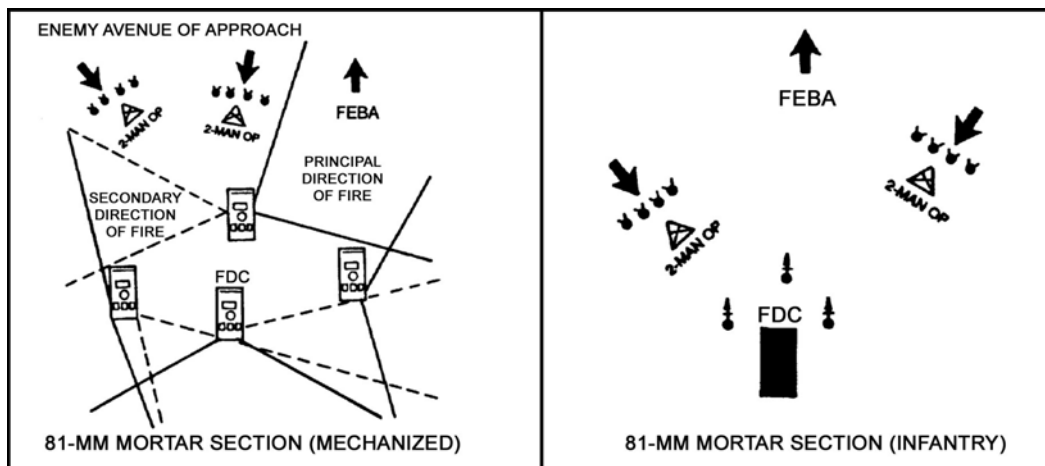

Figure 1. Section Area Avenue of Approach
- c. In mechanized units, the caliber .50 machine gun is a good defensive, antiaircraft weapon. Due to the number of Soldiers in the section, the machine gun should not be dismounted. Each machine gun should be given a principal and an alternate sector of fire. Then range cards must be prepared to ensure adequate coverage is obtained and to ensure left and right limits are understood. With this in mind and knowing the limits of the caliber .50 machine gun being fired from the armored personnel carrier, areas not covered by the machine gun and all areas for the infantry mortars must rely heavily on M16s for direct-fire engagement of the enemy. However, mortar units do not have enough members to take care of all-round coverage of the section's area. The section leader must analyze the terrain and determine the most likely avenues of approach (Figure 1).